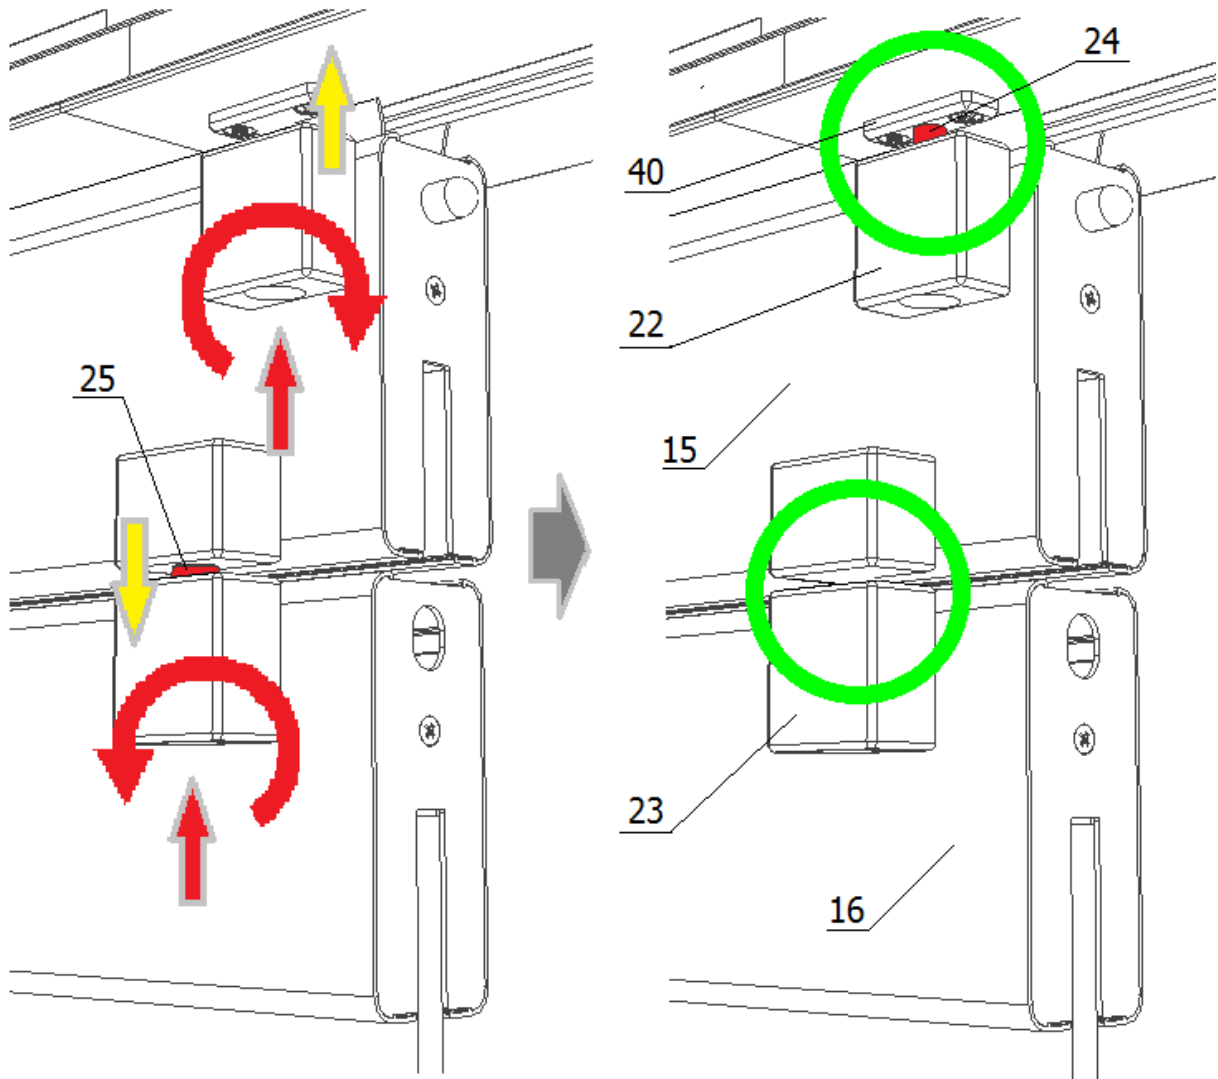
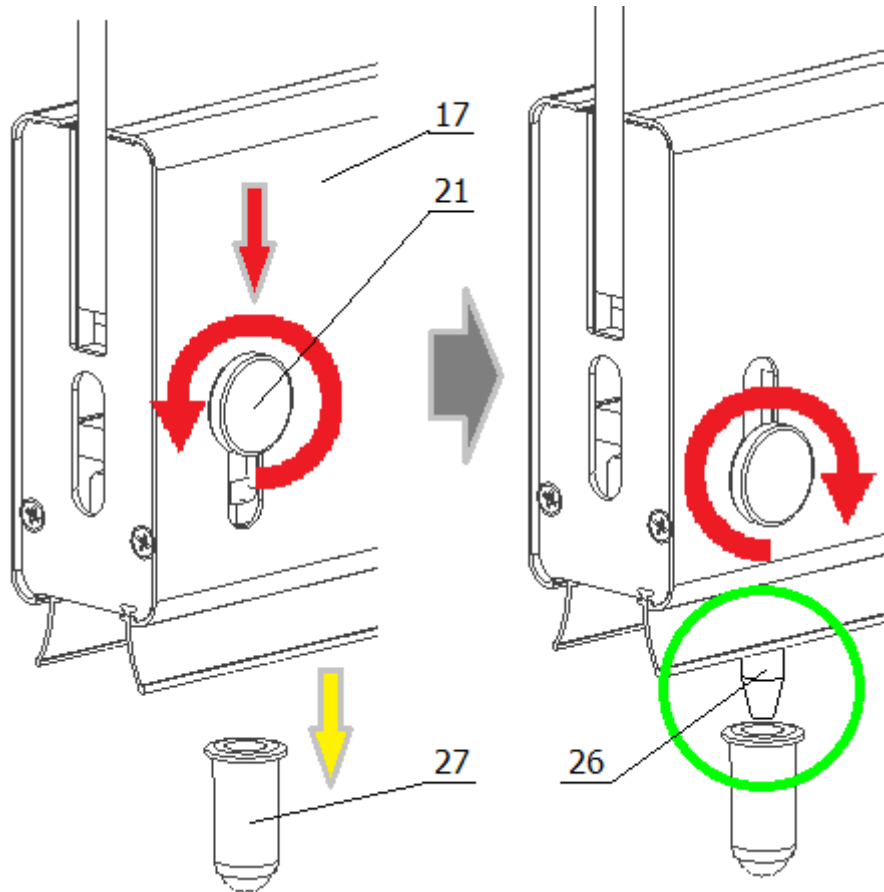

Fig.16 Unlocking the door panel from the track and clipping together both its profiles (red arrow: insert the key; round arrow: key rotation direction)
Fig.17 Locking the door panel in the floor (round arrow: direction of turning the handle - loosen ONLY!; red arrow: move the loosened handle downwards)
1. Unlock the two upper profiles of the door panel (15 and 16) by entering the key according to the red arrows (Fig. 16) into the lock hole (23) so that the door panel can open. The pin (25) that clips the profiles will retract.
2. Lock the upper profile of the door panel (15) in the track where the panel positioning plate (40) is located by inserting the key according to the red arrows (Fig. 16) into the lock hole (22) so that the door panel cannot move in the track. The locking pin (24) will come out.
3. Lock the lower profile of the door panel (17) in the floor where the anti-dust seat (27) is located by loosening the previously tightened handle (21), as indicated by the red arrows (Fig.17) in the lower hinge (21), so that the door panel cannot move in the track. By moving the handle (21) downwards, the pin (26) will come out.
5. The door panel has **two upper locks (22 and 23 in Fig. 16)** and a **lower hinge (21 in Fig. 17)**.
To **lock the door panel against sliding** it (in the track and in the floor), and to **unlock the possibility of opening the door** (unlock the two upper profiles in relation to each other), follow the **procedure described in SECTION 5.2! (Fig. 16 and 17)**
6. The top lock in the track (22) has a mandrel (24) **WHICH MUST fit into the positioning plate (40 in Fig. 16)** previously attached to the track.
7. The lower hinge (21 in Fig. 17) has a pin (26) **WHICH MUST fit into the anti-dust seat (27 in Fig. 17)**. To do this, make small **ADJUSTMENT MOVEMENTS** (circular, forwards / backwards or sideways) when unfolding the door panel.
8. After the door panel has been stiffened, it is possible to unlock its door, i.e. retract the locking pin (25) (23 in Fig. 16) as per **Section 5.2.!**
6. The door panel has **two upper locks (22 and 23 in Fig. 16)** and a lower hinge (21 in Fig. 17).
To lock the door panel against sliding (in the track and in the floor), and **to unlock the possibility of opening the door** (unlock the two upper profiles in relation to each other), follow **the procedure described in SECTION 5.2! (Fig. 16 and 17)**
8. The top lock in the track (22) has a mandrel (24) **which is extended to the positioning plate (40 in Fig. 16)** and which **MUST retract** so that the panel can be moved.
9. The lower hinge (21 in Figure 17) has a pin (26) **that is extended and seated in the anti-dust seat (27 in Figure 17)** - it **MUST retract** so that the panel can be moved.